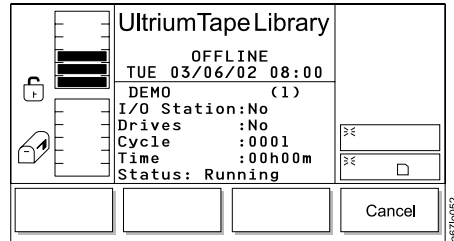

Figure 326. Demo Execution screen
7. Verify that the new settings are correct on the display, then press the button below the **OK** softkey to begin the demo. The Demo Execution screen displays (see Figure 326) with a summary of the test settings and a Status field that indicates that the diagnostic is Running. When the test completes, the screen refreshes and the Status field displays Completed.